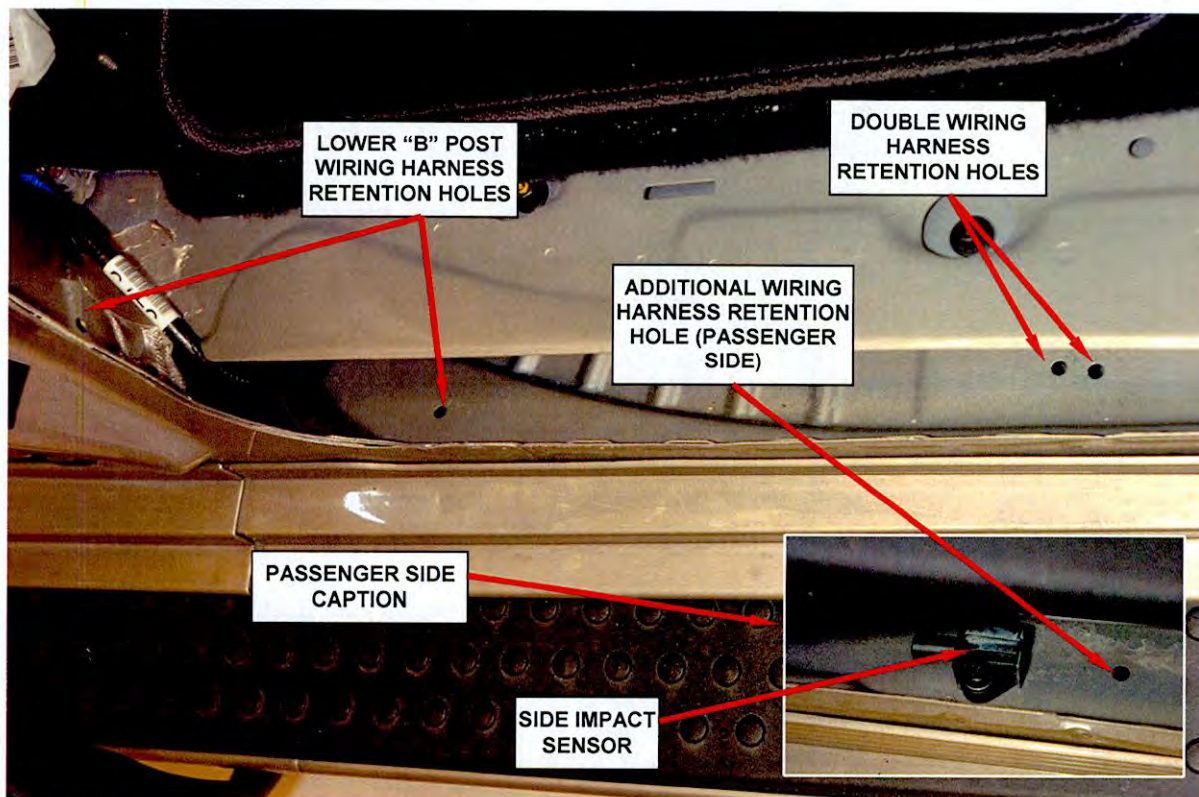

Figure 6 – Wiring Harness Retention Holes (Driver's Side Shown)
13. Disconnect the side impact sensor connector (Figure 6).
NOTE: The passenger side wiring harness has one additional wiring harness retainer at the side impact sensor (Figure 6 caption).
15. Remove the power sliding door harness from the door track by carefully pulling the harness retainers out of the retention holes (Figure 6).
17. Insert the double wiring harness retainers into the door track retention holes and then insert the two lower "B" post wiring harness retainers into the retention holes (Figure 6).
19. Connect the side impact sensor connector (Figure 6).
NOTE: The passenger side wiring harness at the side impact sensor has one additional wiring harness retainer (Figure 6 caption).